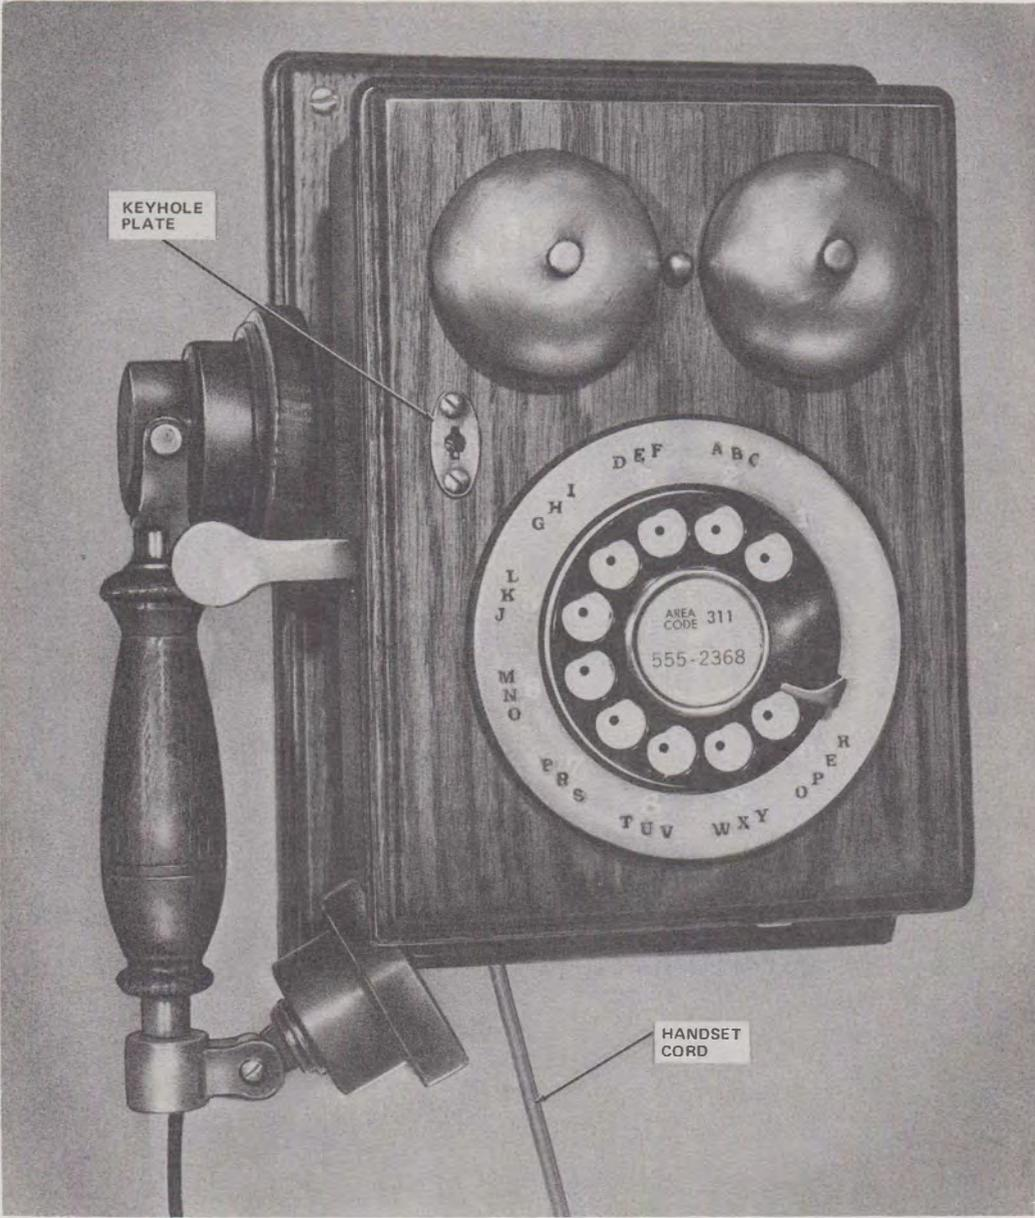

Fig. 1—951A1-03 DESIGN LINE Telephone Set
1.01 This section contains information on the 951A1-03 DESIGN LINE\* telephone set (*Country Junction*\*). This set is a simulated antique wall telephone set (Fig. 1).
2.06 The handset assembly is a special antique design (Fig. 1).
**3.03** To gain access to the interior of the set for wiring changes, insert a small standard blade screwdriver into the key-hole plate on the front of the telephone set (Fig. 1) and turn the